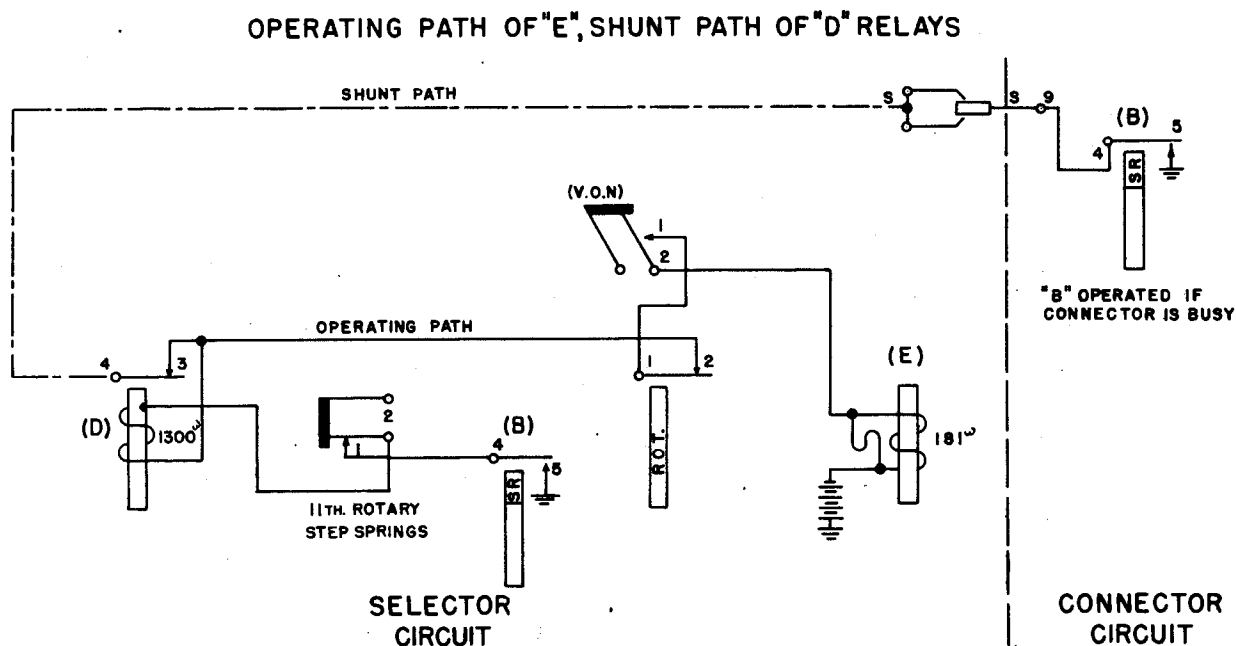

FIG. 12
The ground to shunt the (D) relay comes from the (B) relay of the connector (Fig. 12) over the sleeve (S) terminal of the bank, 4-3 contacts of (D) relay to the winding of the (D) relay. This prevents the ground on the 4-5 contacts of the selector (B) relay, 1-2 contacts of the vertical off-normal (VON) springs, winding the (D) relay from becoming effective. With ground on both sides of the winding the relay cannot operate. (Compare with Fig. 7)
The (E) relay operates (Fig. 12) from the ground on the (B) relay in the connector, sleeve (S) terminal of the selector bank, 4-3 contacts of (D) relay, 2-1 contacts of the rotary interrupter (ROT) springs, 1-2 contacts of the vertical off-normal (VON) springs, inductive and non-inductive winding 181 ohms of the (E) relay to battery.